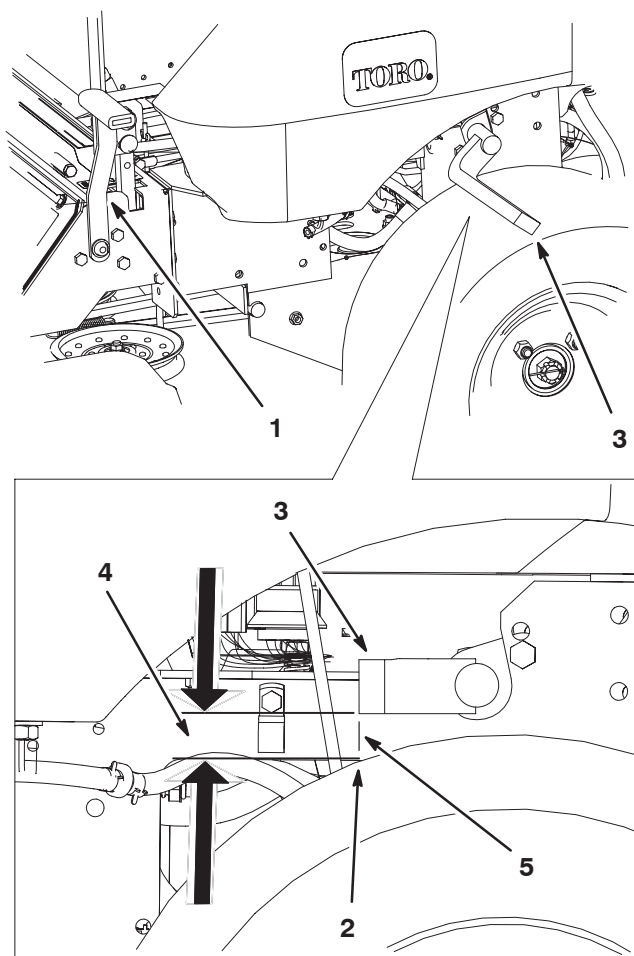

Figure 61
3. Measure the distance vertically between the front of the brake bar and the crown of the tire; the measurement should be 7/8 inch to 1 inch (22 to 25 mm) (Fig. 61).
7. Measure the distance vertically between the front of the brake bar and the crown of the tire; the measurement should be 7/8 inch to 1 inch. (Fig. 61).
9. Engage the parking brake, with the lever up and ensure the brake bar engages the tire (Fig. 61).